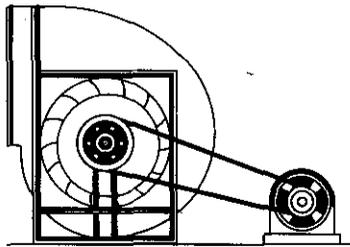

Fig. 1 - Typical Centrifugal Fan
(1) centrifugal or radial flow, and (2) axial flow or propeller type illustrated in Figs. 1 and 2, respectively.